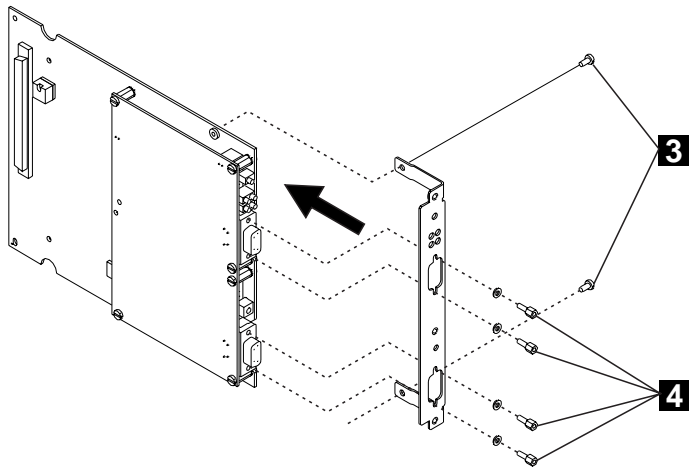

Figure 4-8. Attaching the Faceplate Bracket
- f** Attach the faceplate bracket to the motherboard using the six screws (**3** , in Figure 4-8 on page 4-17).